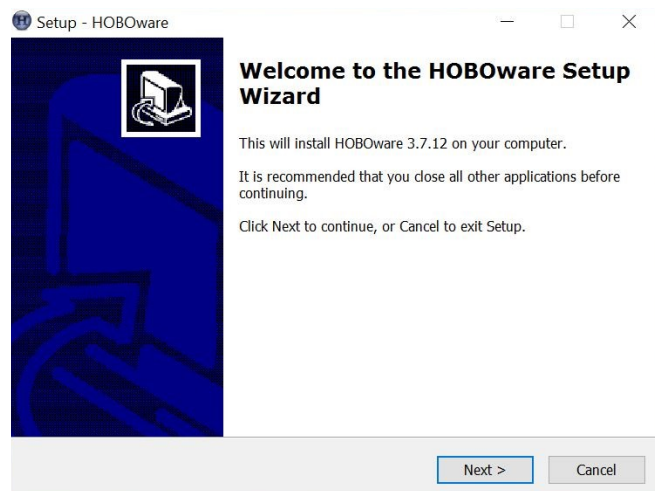

Figure 12. HOBOWare Setup Wizard
2. Figure 12 shows the HOBOWare Setup Wizard, click NEXT (Fig. 12).